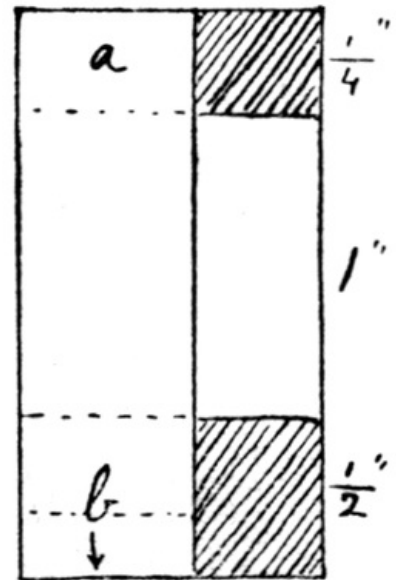

FIG. 301
*Seats for the Top.* Pieces of cartridge paper are cut out,  $1\frac{3}{4}$  inches by  $\frac{3}{4}$  inch, and coloured yellow. These are folded and cut as in Figs. 301 and 302. Part *a* is gummed to the side of the car, flap *b* is gummed to the floor. The second seat is gummed back to back to the